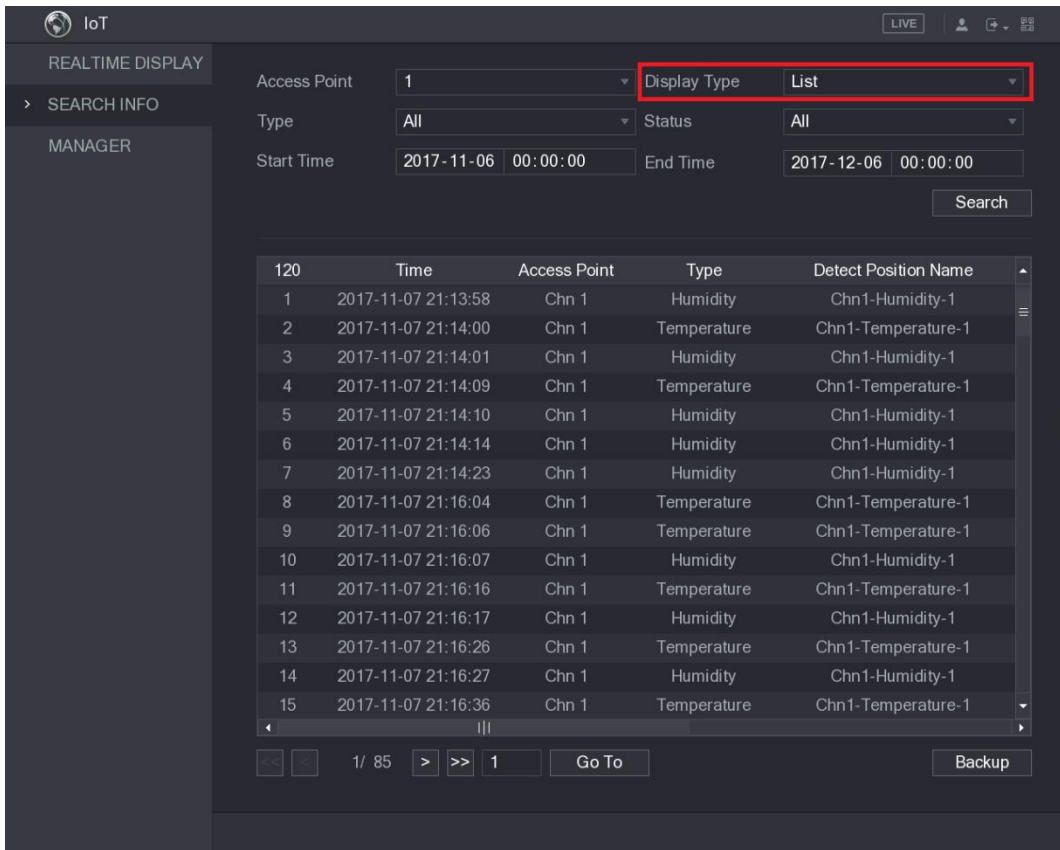

Figure 5-160
- For the data displayed in list, see Figure 5-160.